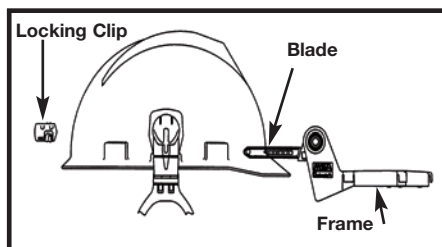

Figure 2
1. Snap each earmuff into accessory slot on each side of the helmet. (Figure 2)